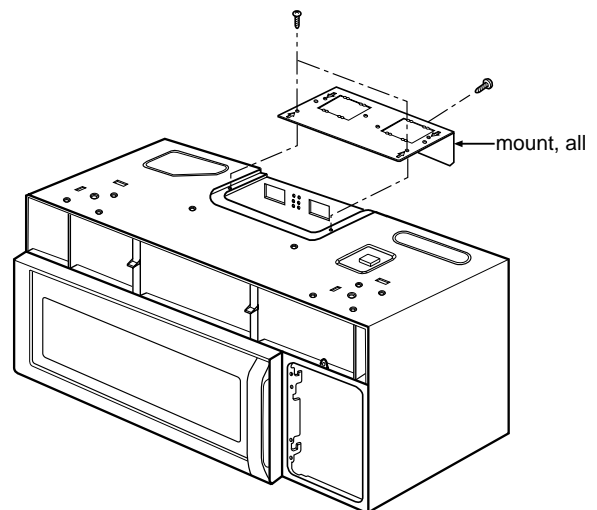

Figure 12
- (3) Remove the mount all from the out case by removing two screws securing it to the out case and one screw securing it to the ventilation motor ASS'Y and cavity. (Figure 12)